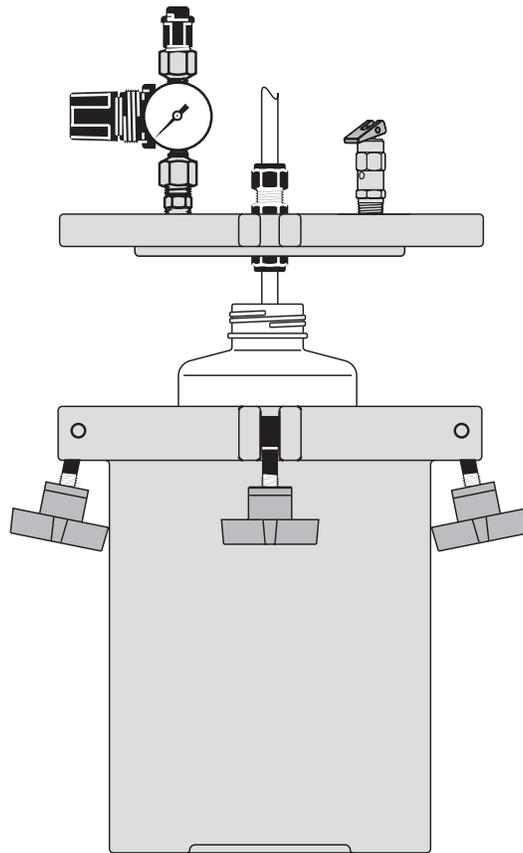

Figure 3
7. Install the cover. If you are using a manufacturer's bottle, ensure the feed tube is inserted into the bottle. (Figure 3).